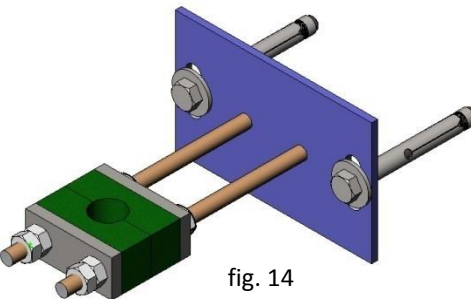

fig. 14
- A stem support-guide is recommended (Fig. 14) every 1.5 m.